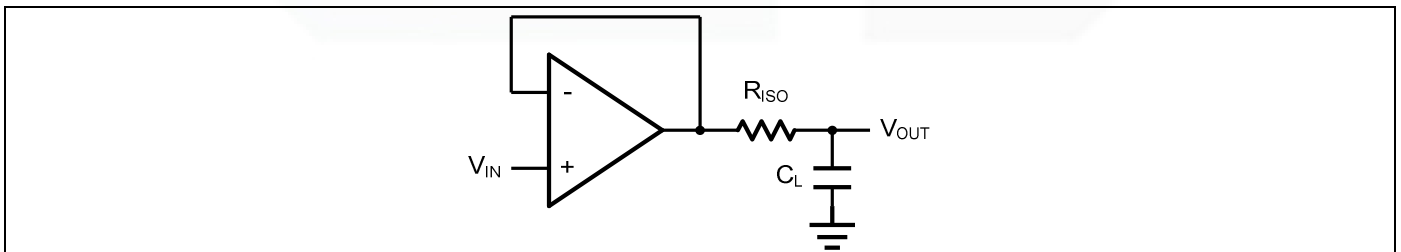
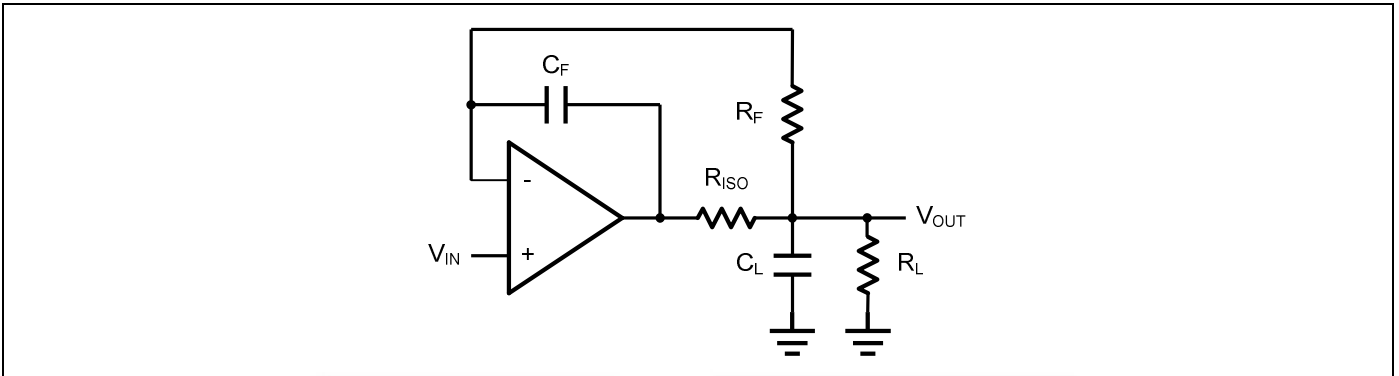

Figure 2. Indirectly Driving a Capacitive Load Using Isolation Resistor
Figure 3. Indirectly Driving a Capacitive Load with DC Accuracy
The GS8722C is optimized for bandwidth and speed, not for driving capacitive loads. Output capacitance will create a pole in the amplifier's feedback path, leading to excessive peaking and potential oscillation. If dealing with load capacitance is a requirement of the application, the two strategies to consider are (1) using a small resistor in series with the amplifier's output and the load capacitance and (2) reducing the bandwidth of the amplifier's feedback loop by increasing the overall noise gain. Figure 2. shows a unity gain follower using the series resistor strategy. The resistor isolates the output from the capacitance and, more importantly, creates a zero in the feedback path that compensates for the pole created by the output capacitance.
The circuit in Figure 3 is an improvement to the one in Figure 2.  $R_F$  provides the DC accuracy by feed-forward the  $V_{IN}$  to  $R_L$ .  $C_F$  and  $R_{ISO}$  serve to counteract the loss of phase margin by feeding the high frequency component of the output signal back to the